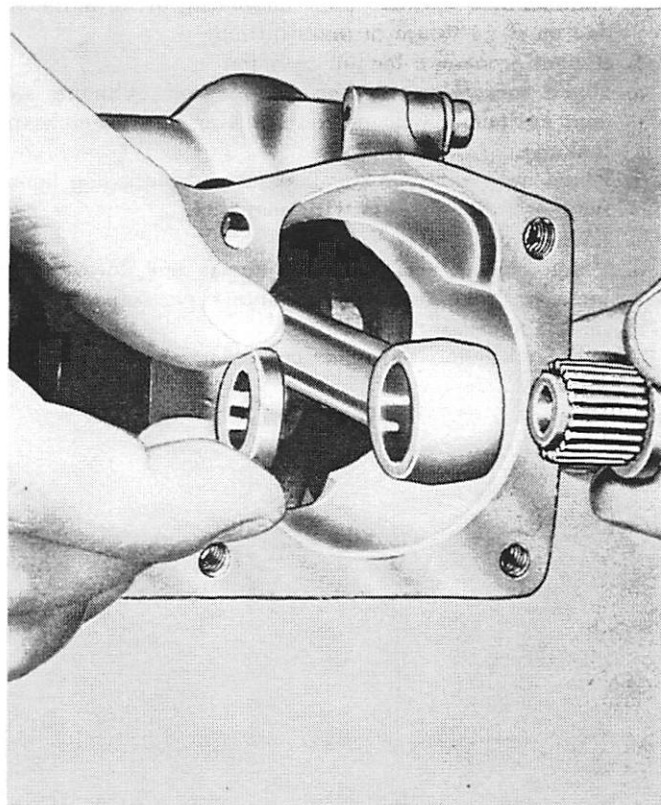

Figure 15. Replacing Piston Pin Bearings
1. Replace loose piston pin bearings with Piston Pin Bearing Tool (91-24118). (Figure 15)